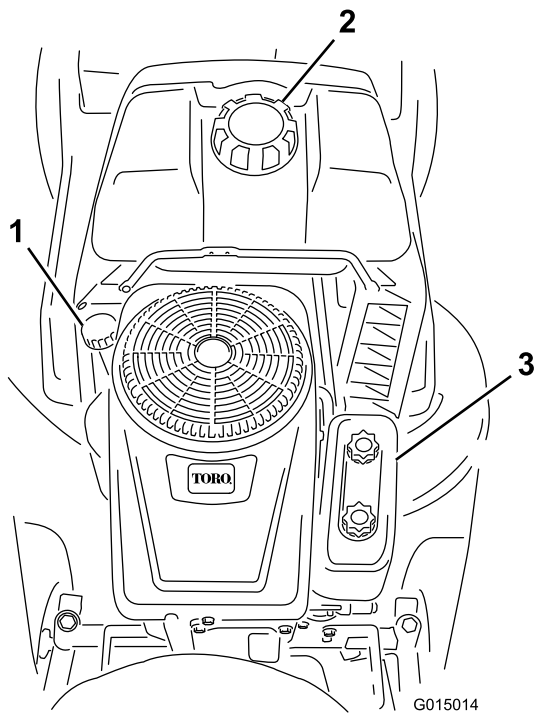

Figure 17
5. Clean around the oil dipstick (Figure 17) so that dirt cannot fall into the fill hole and damage the engine.
6. Slowly pour about 80% of the specified amount of oil into the fill hole (Figure 17). Check the oil level; refer to steps 6 and 7 of Checking the Oil Level.